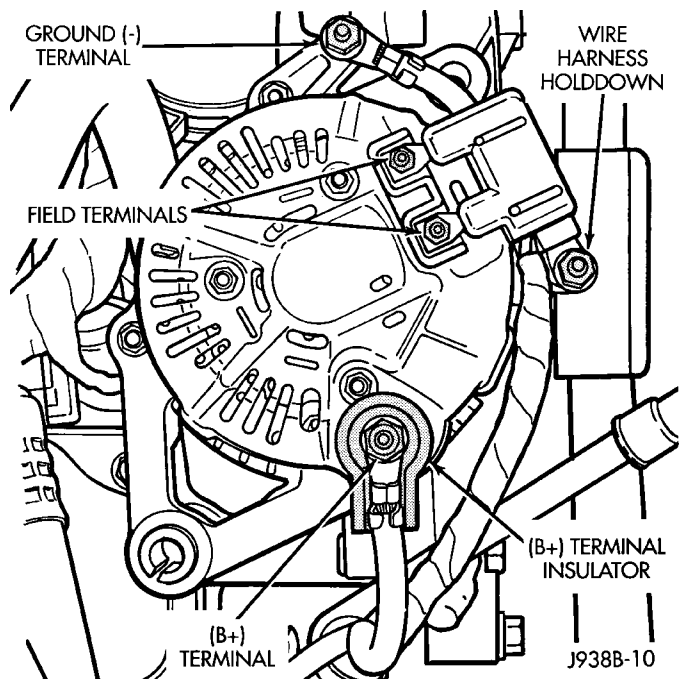
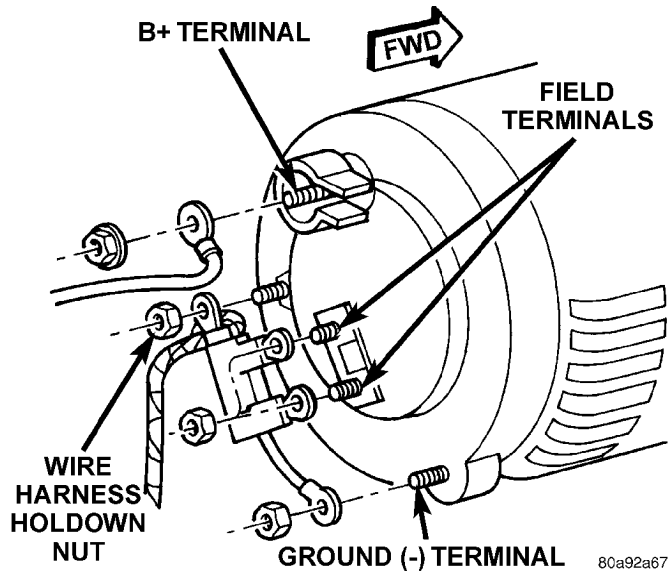

Fig. 6 Remove/Install Generator Connectors—5.2L/5.9L Engines—Typical
Fig. 7 Remove/Install Generator Connectors—4.0L Engine—Typical
(4) Remove nuts from harness holddown, battery terminal, ground terminal and 2 field terminals. Remove wire connectors. A typical generator wiring harness for 5.2L/5.9L engines is shown in (Fig. 6). A typical generator wiring harness for 4.0L engines is shown in (Fig. 7). Wiring harness routing as shown may be slightly different depending on vehicle model and/or engine. Refer to Group 8W, Wiring Diagrams for additional information.
- (5) Remove generator from vehicle.